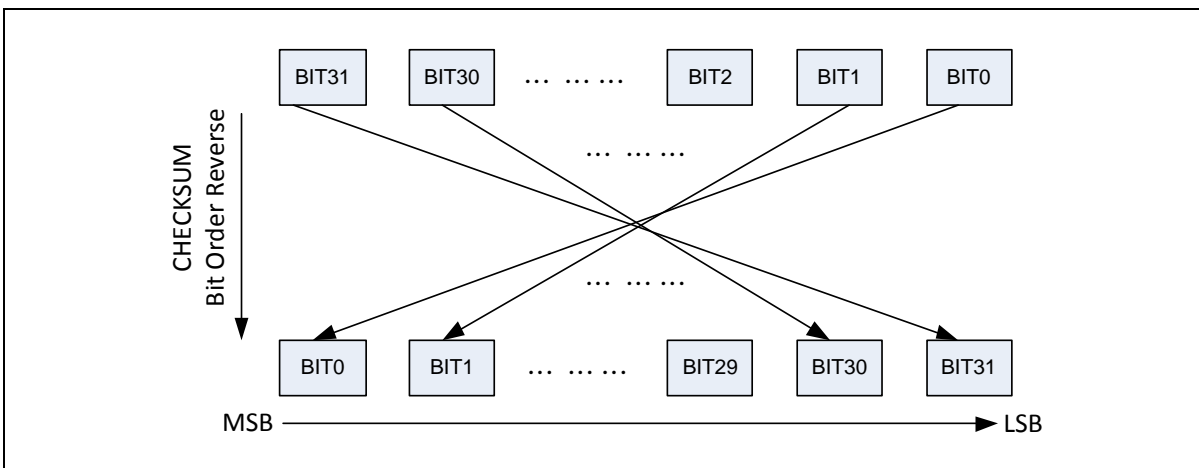

Figure 6.34-2 CHECKSUM Bit Order Reverse Functional Block
- 2) Configure bit order reverse for CRC checksum by setting CHKSREV (CRC_CTL[25] Checksum Bit Order Reverse). The functional block is also shown in Figure 6.34-2 CHECKSUM Bit Order Reverse Functional Block